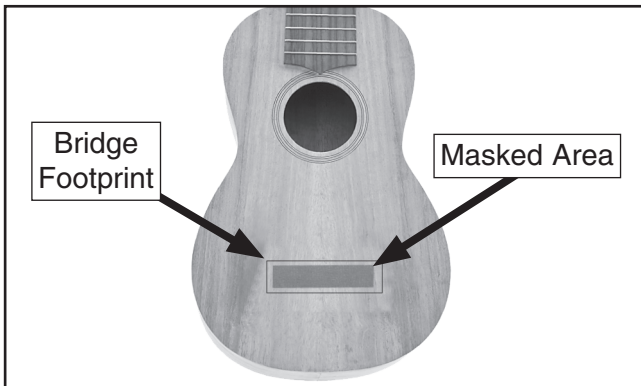

Figure 28. Masked off area for bridge.
- Mask the bridge mounting location, (see **Figure 28**).